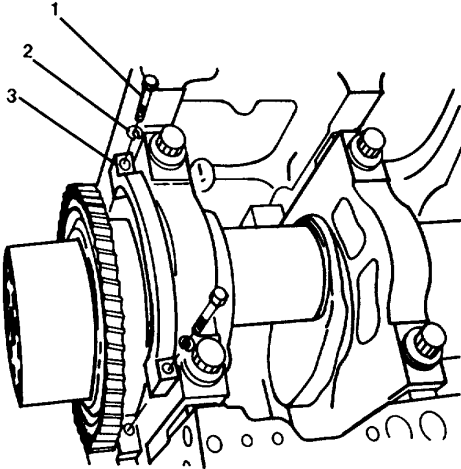

FIGURE 4-49. Main Bearing Cap Removal
- e. Remove capscrews (1, FIG. 4-49) lockwashers (2), and thrust bearing retainer plates (3).